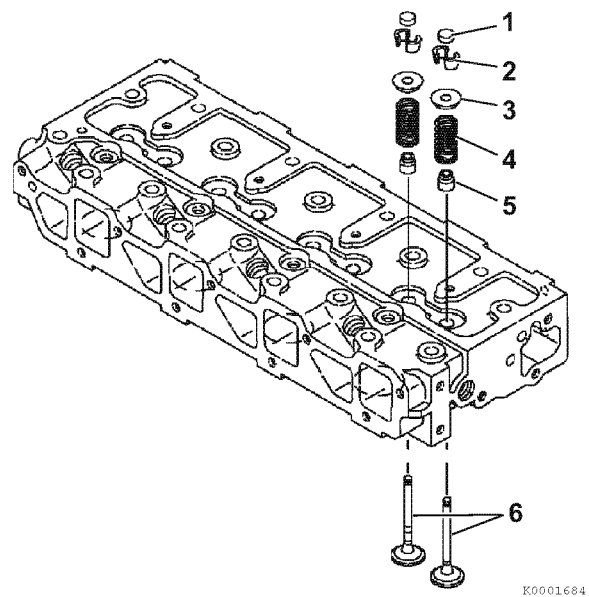

Figure 6-11
2. Remove the valve cap (Figure 6-11, (1)) and keep with the valve it was installed on.
4. Remove the valve keepers (Figure 6-11, (2)).
6. Remove the spring retainer (Figure 6-11, (3)) and valve spring (Figure 6-11, (4)).
8. Turn the cylinder head so the exhaust port side faces down. Remove the intake and exhaust valves (**Figure 6-11, (6)**) from the cylinder head.
9. Remove the valve stem seals (**Figure 6-11, (5)**).